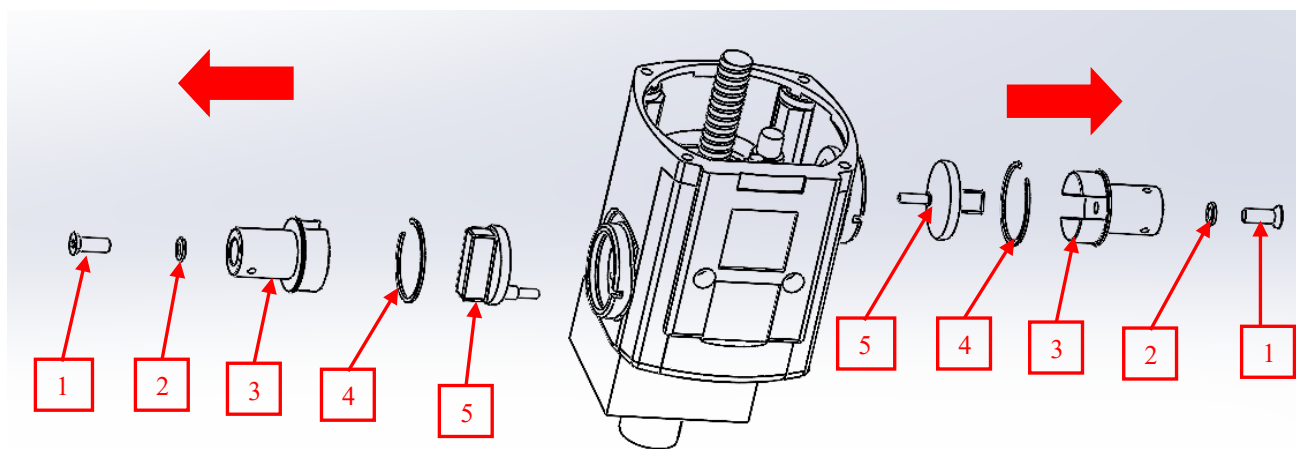

Figure 5.18
- 5.7.1 With the aid of a screwdriver remove the screws and washers figure 5.18 – position 1 – position 2, proceed to remove the knobs (COE00889) – position 3 – figure 5.18, continue by removing the seeger rings in position 4 – figure 5.18 and then remove the knobs as in figure 5.18 – position 5;